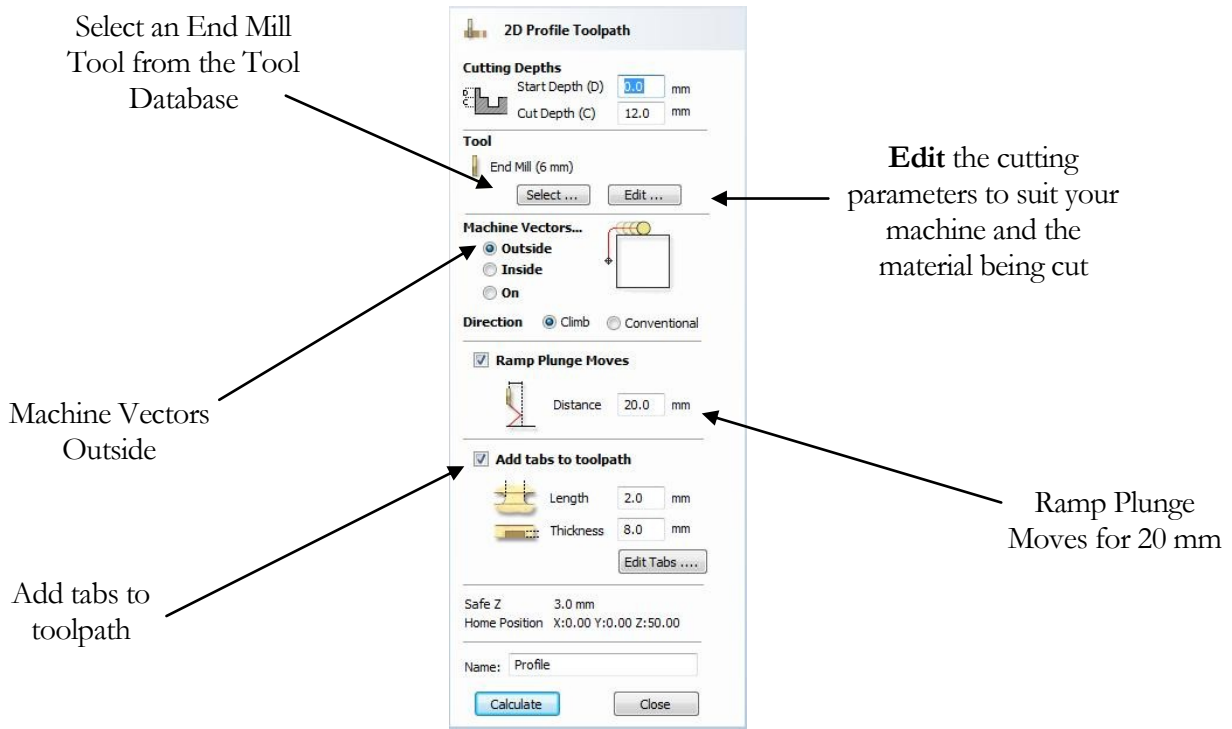

Figure 25. Profile Toolpath parameters
- Next, select the **Create Profile Toolpath**  icon from the **Toolpath Operations** list (Figure 24) and complete the form as shown below in Figure 25.